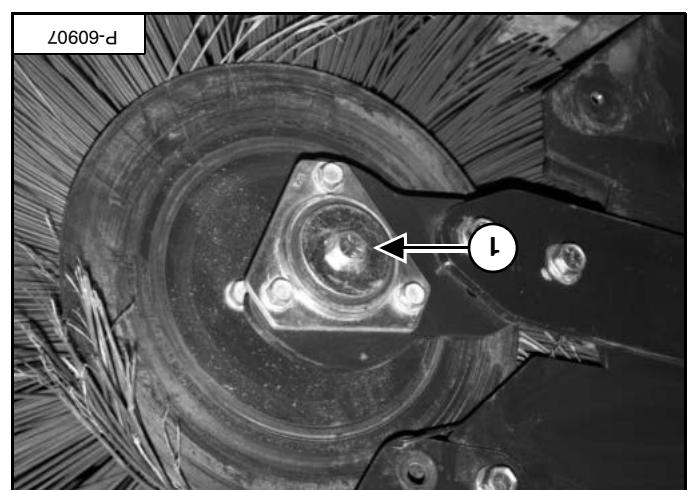

Figure 109
Remove bolt (item 1) [Figure 109].